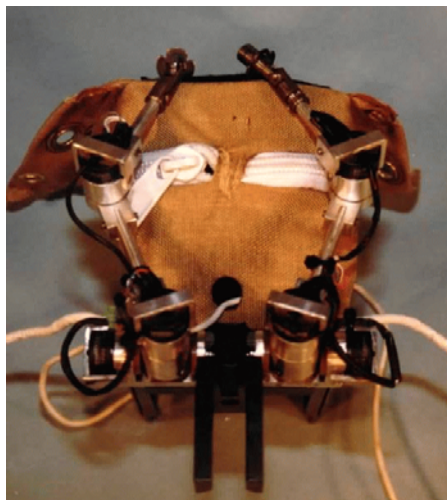

Figure 16.4- Upper Left CRUX installed
2. Mount the Upper Left CRUX unit (T1CXM002) onto the top left-side of the thoracic instrumentation bracket using two #10-24 x 5/8" FSHCS {1/8}, as shown in **Figure 16.4**. The base potentiometer should be oriented to the left, away from the center of the bracket assembly as shown.